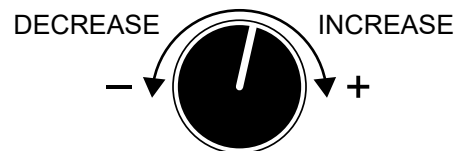

Figure 49. Voltage Regulator
7. If the voltage is not within the specified tolerance, use the **voltage regulator** (Figure 49) to increase or decrease the desired voltage.